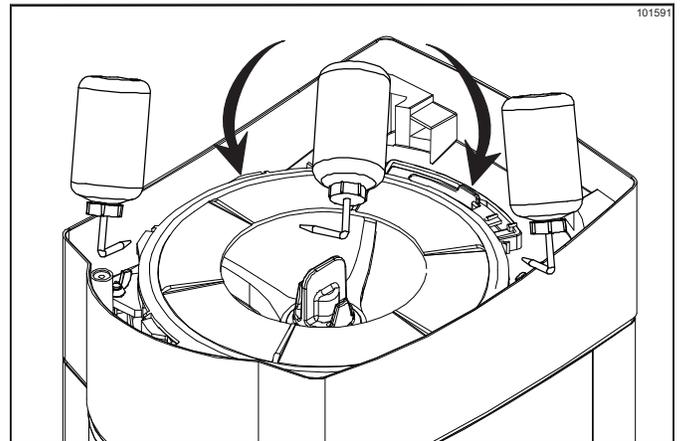

Figure 6-14
19. Using the squeeze bottle of cleaning/sanitizing solution, flush inside, outside, and under the ice shaver assembly, thoroughly covering all surfaces. (See Figure 6-14.)